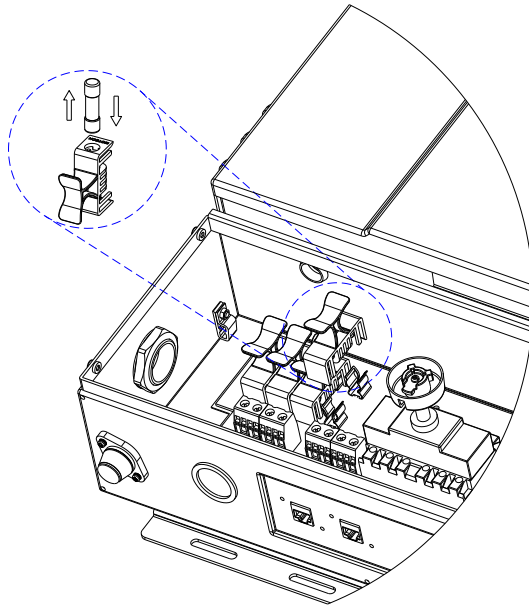

Fig 5.4.2.1 Replacement of the PV string fuses
4. Exchange the fuses as shown in the figure 5.4.2.1.